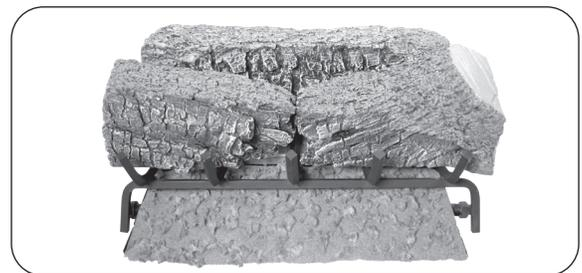

Fig. 2-3 Place front log
8. Place the front log(s) (sold separately) onto the grate and shift it back so it is centered and touching the rear log (see Fig. 2-3 and Fig. 2-4).